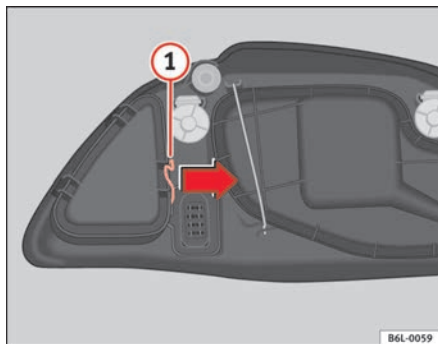

Fig. 154 Side lights
- Remove the loops ① ⇒ fig. 154 in the direction of the arrow and remove the cover.